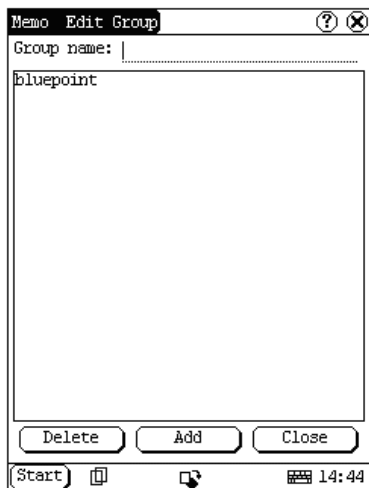

Fig 4-14
- 1) Click the [▼] button on the top right of the interface ① so that the type list pops up.
- 5) Click [Add] button to add a new type and it will be displayed in the list box of the Edit Group interface. (See Fig 4-14)
*The interface ① : It represents the Memo Interface, the New Memo interface and the Memo Edit interface.*